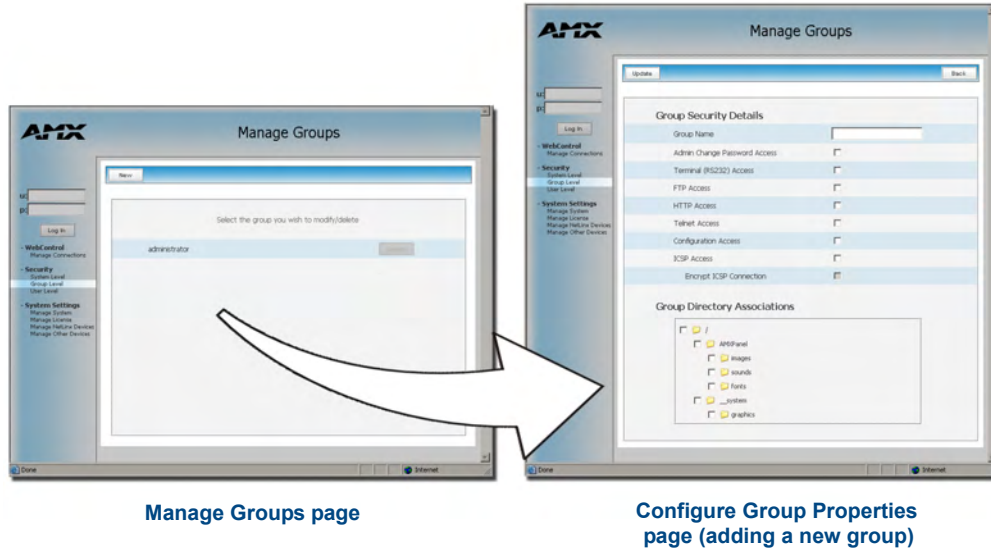

FIG. 37 Group Level Security - Manage Groups Security page
To access this page, click the **Group Level** link (from within the Security section of the Navigation frame). This page (FIG. 37) allows an authorized user to both select and modify an existing group, delete an existing group, or add a new group. *Unless you are logged in with administrator privileges, you will not be allowed to modify the default administrator profile.*
2. Click the **New** button to be transferred to the Configure Group Properties page (FIG. 37).
2. Press the **Select** button (*next to the selected Group name*) to open the *Configure Group Properties* page (FIG. 37) for the particular group.